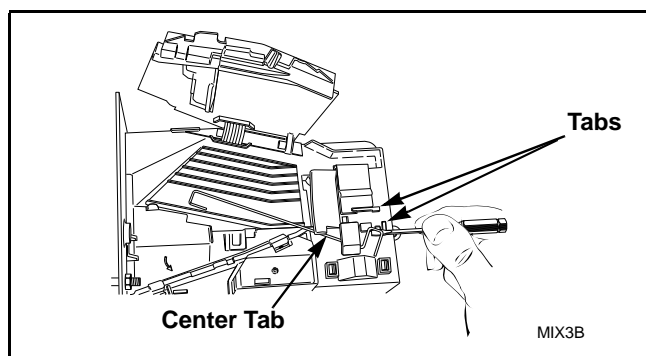
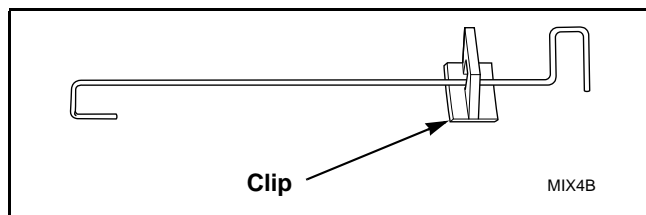

Figure 6
Figure 7
- (6) Rotate spring clockwise, 40 to 60 degrees, until it is free from right tabs. Refer to *Figure 6*.
- (7) Use screwdriver to remove spring from center tab. Refer to *Figure 6*.
(8) Lift spring, with attached clip, off drop.
(9) Remove clip from spring. Refer to *Figure 7*.